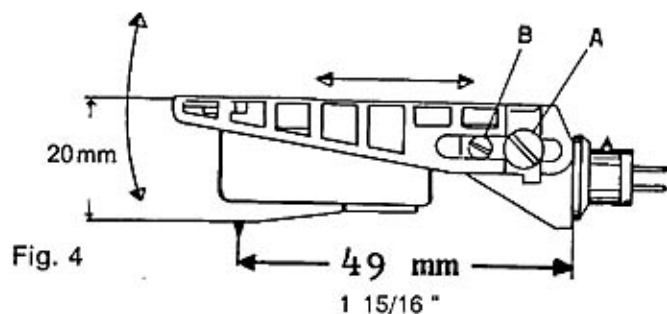

Fig. 4
a) Loosen slightly the two screws A on both sides of the shell and small screw B (see Fig. 4).
The optimum distance of 230 mm between stylus tip and vertical tone arm bearing is obtained when the stylus tip is at a distance of 1,15/16" (49 mm) from the rear vertical surface of the plug-in shell. See Fig 4. Tighten the two screws A.